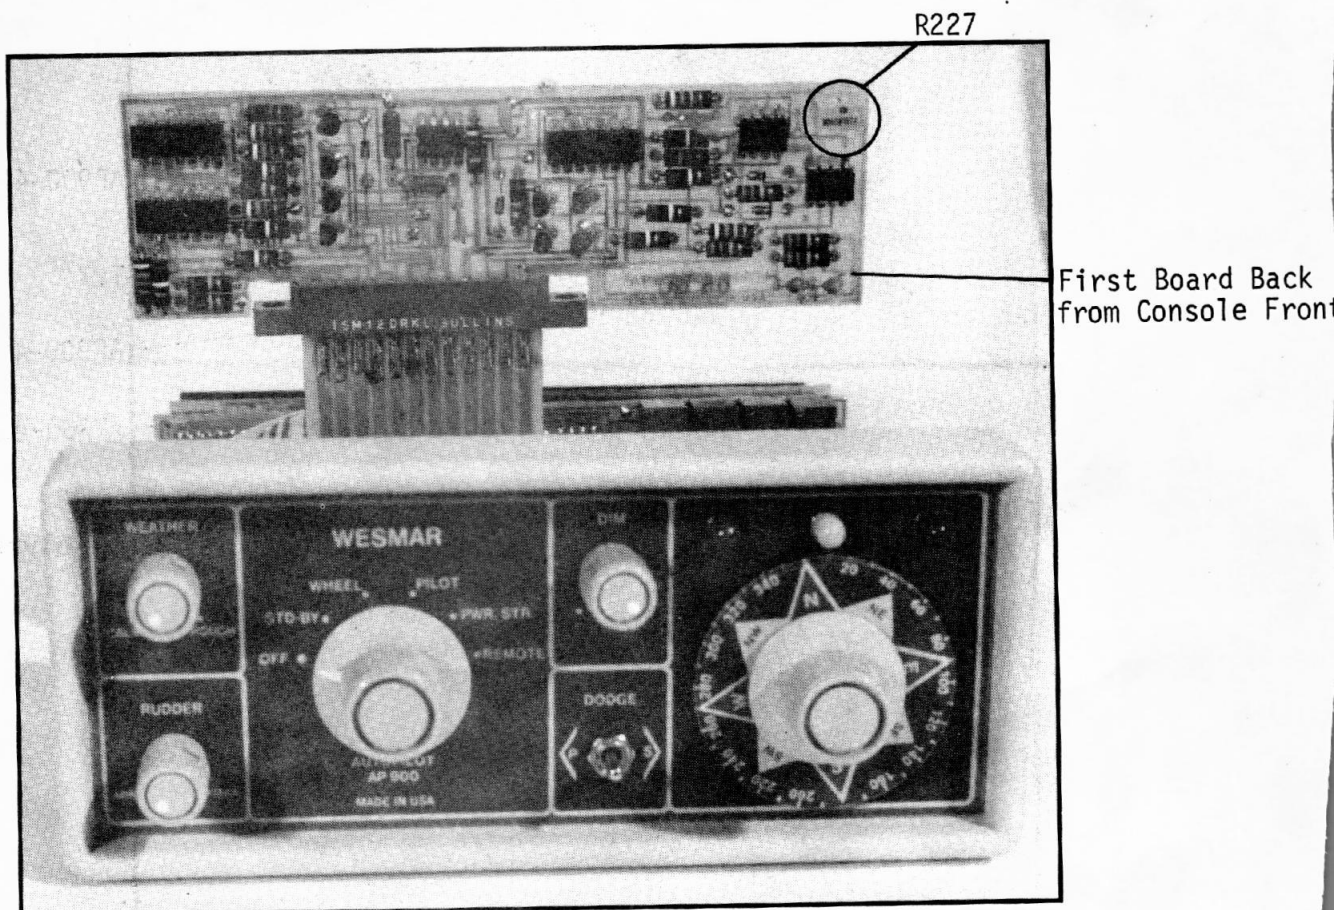

FIGURE 58. AP900-4018 REFERENCE REGULATOR/RESOLVER DRIVER BOARD
8. While in the STD-BY mode of operation, rotate the COURSE SET DIAL clockwise. As soon as you stop turning the dial, release it, and the Autopilot should return the dial back to the original heading. At this point, the yellow light should come on. Should the COURSE SET DIAL "hunt" back and forth about the yellow light, adjust R227 on AP900-4018 (Figure 58) to stop "hunt." If the COURSE SET DIAL does not turn to a position at which the yellow light comes on, increase gain pot R227 (AP900-4018) (Figure 58) until the dial rotates to a yellow light. If this function does not operate correctly, refer to TROUBLESHOOTING, Numbers 30 and 31.